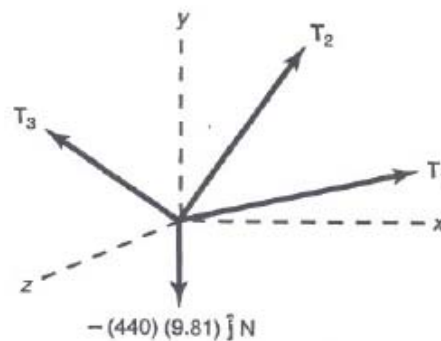

FIGURE S3.22
3.22 A free body diagram of this system is given in figure S3.22.